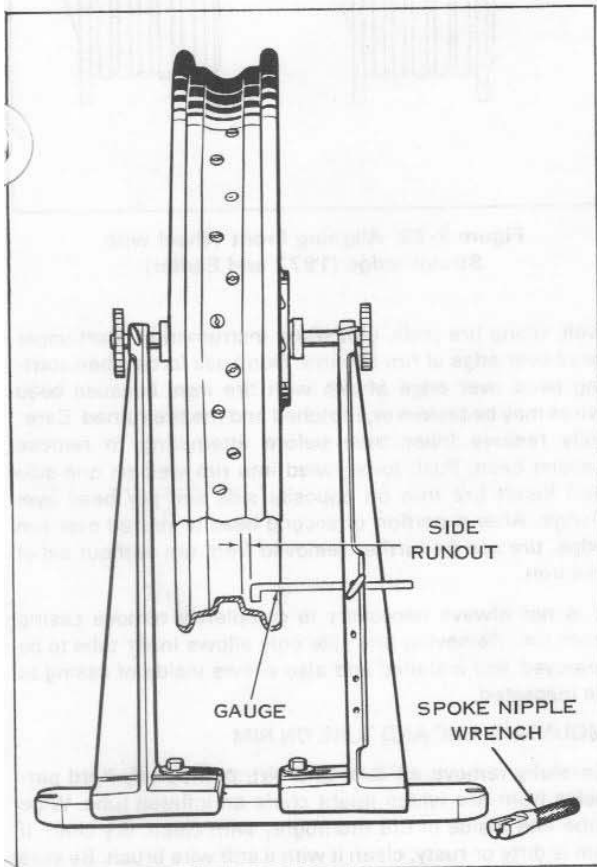
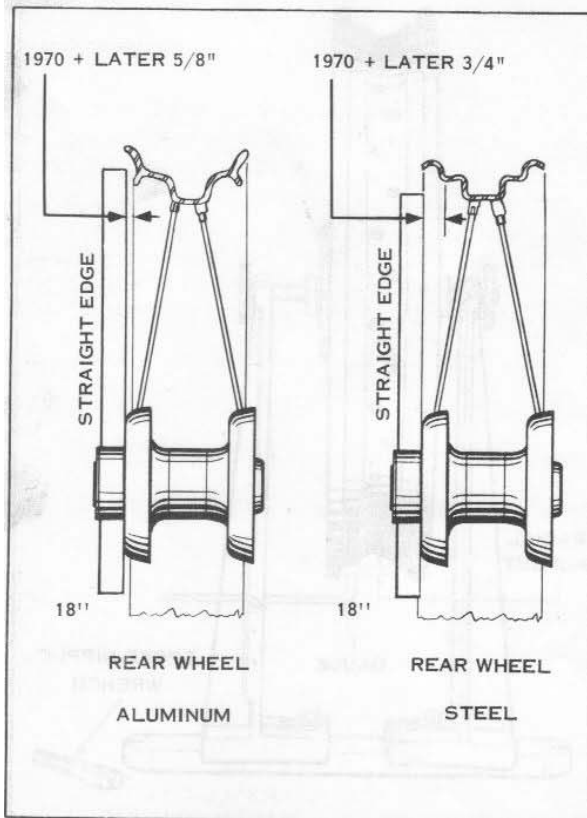

Figure 2-19. Truing Rim Sideways
Figure 2-21. Aligning Rear Wheel with Straightedge
See Figure 2-19 and proceed as follows. Insert arbor in wheel hub and place wheel in Truing Stand, Part No. 95500-29A.
4. Front and Rear Wheel: Check rim for concentricity, centering sideways with hub and for running true sideways (Figures 2-19 and 2-20). Centering rim sideways must be done as one operation. Rim must be properly centered sideways in relation to hub for correct alignment and "tracking" of wheels. Figures 2-21, 2-22 and 2-23 show method of using a straightedge to determine correct sideways centering of wheel rim. If rim is too close to straightedge, loosen all nipples on brake side and tighten all nipples on opposite side same amount. If rim is too far
Adjust truing stand gauge (Figure 2-19), to side of rim well so rim at highest point will strike gauge as wheel is rotated slowly. Loosen nipples at highest point of rim on gauge side, and tighten nipples on opposite side the same number of turns. Repeat this operation until rim runs true sideways. Reverse loosening and tightening of nipples, as explained above, if rim moves too far away from gauge. After each loosening and tightening of spokes, check rim in relation to hub as shown in Figures 2-21 and 2-22. Rim should be trued sideways to within  $1/32$  in.